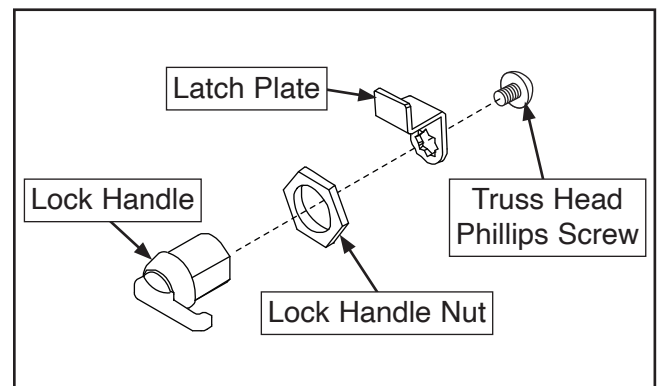

Figure 11. Lock handle assembly components.
6. Disassemble (2) lock handle assemblies. Each contains (4) components: (1) lock handle, lock handle nut, latch plate, and M5-.8 x 5 truss head Phillips screw (see **Figure 11**).